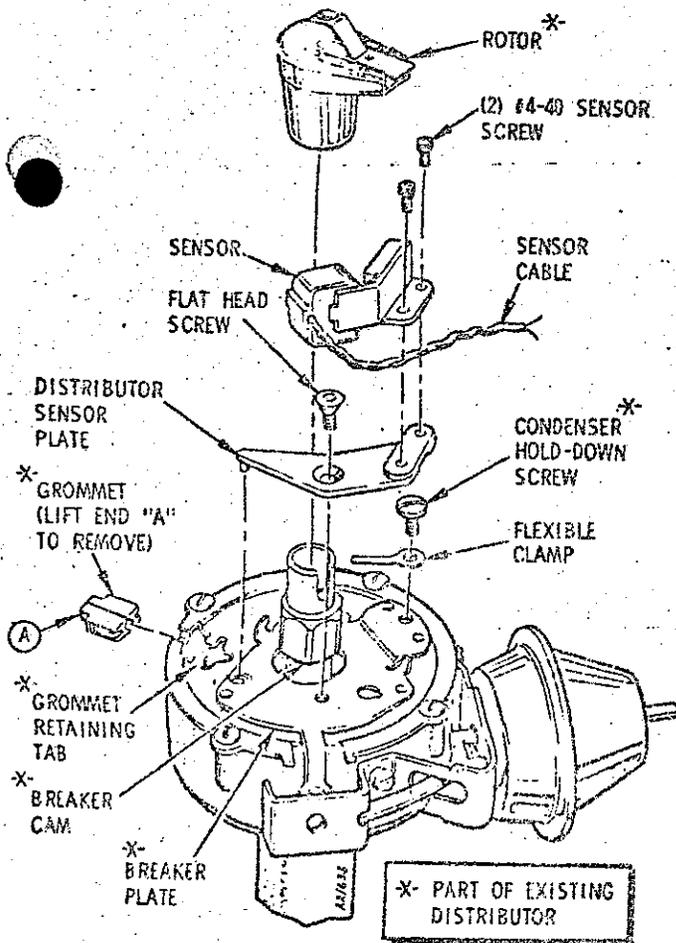

FIGURE 1
3. Disconnect point wire from ignition coil; remove the distributor points, the condenser and point wire, and the grommet from the distributor housing. See Figure 1 to remove grommet. (Save hold-down screw and grommet.)
4. Securely mount distributor sensor plate to distributor breaker plate at existing breaker-point mounting hole with the 8-32 flat head screw from this kit. (Figure 1)